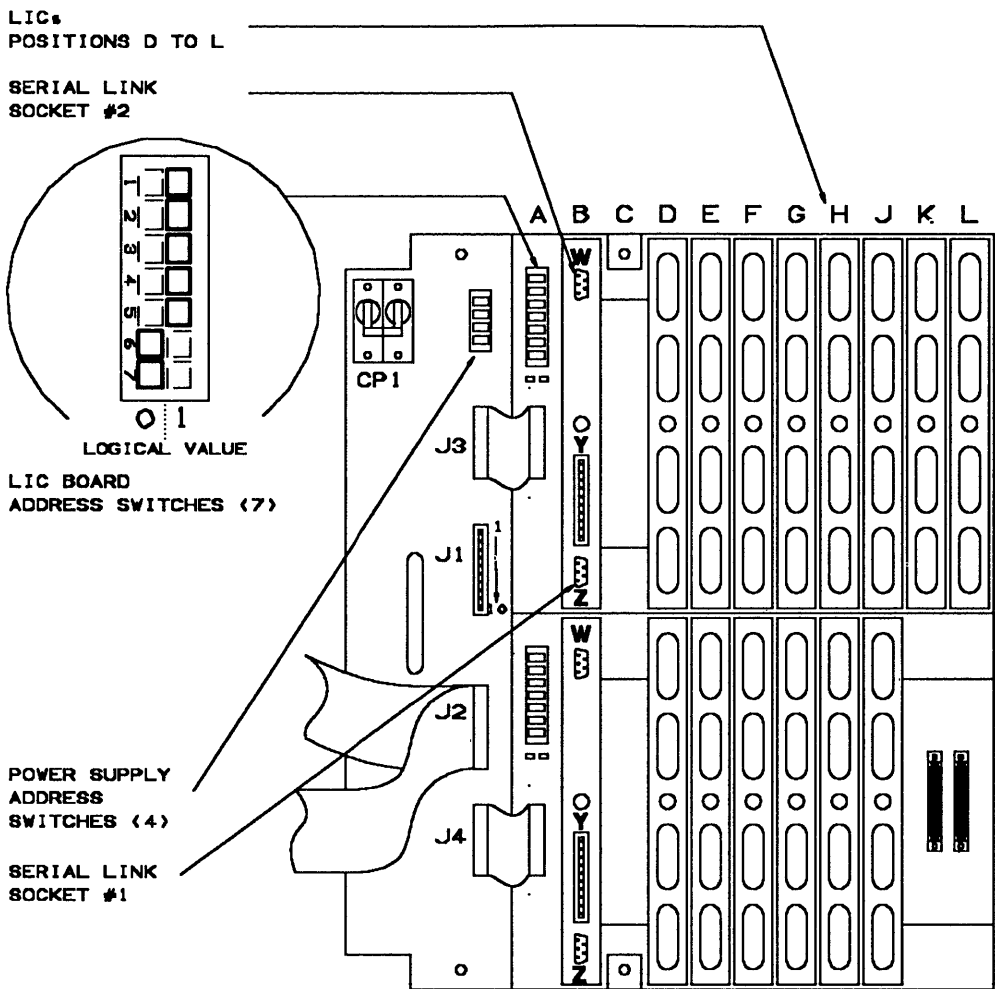

Figure 5-141. LIC Board Type 1 Assembly
Refer to Figure 5-141 on page 5-140 and do the following:
1. Refer to Figure 5-141 on page 5-140 and set the board address the same way you noted it during board removal.